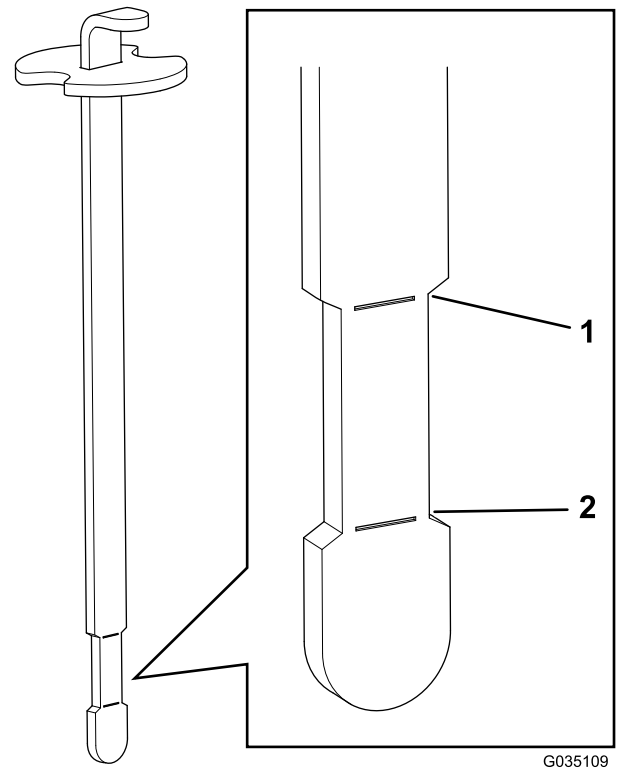

**Figure 16**
- Mobil EAL Envirosyn H 46 (US)
2. Clean the area around the hydraulic-reservoir cap to prevent debris from entering the tank (Figure 16).